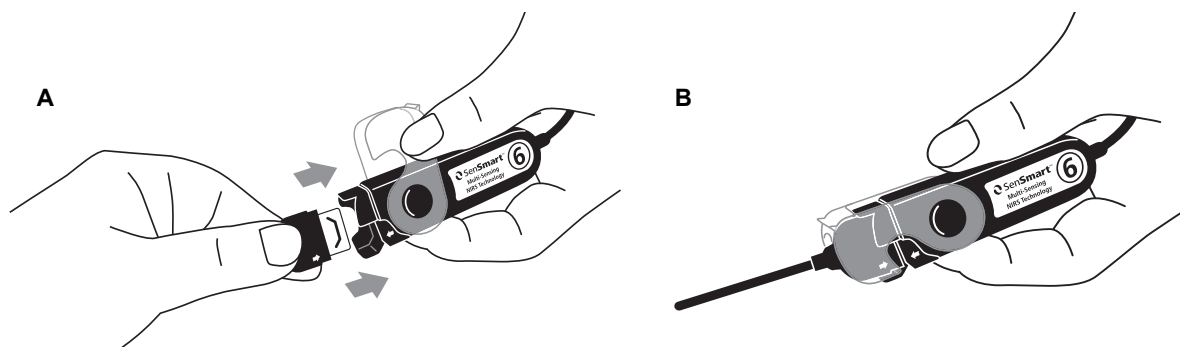

Figure 12. Connect Intermediate Cable or Sensor to Signal Processor
- b. Align the arrows on the INT-100 connector and the signal processor (figure 12-A). Insert the INT-100 connector into the signal processor connection port.
- c. Flip the lock over the connector and click it into place (figure 12-B).
- b. Align the arrows on the sensor connector and the signal processor (figure 12-A). Insert the sensor connector into the signal processor connection port.
- c. Flip the lock over the sensor connector and click it into place (figure 12-B).